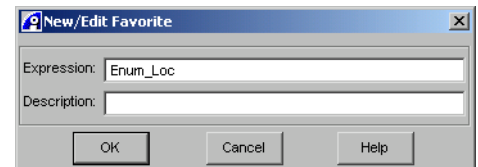

Figure 7-14 Adding a new favorite
3. Click **Add to List** to add the specified expression to your Favorites List. This displays the New/Edit Favorite dialog box shown in Figure 7-14.